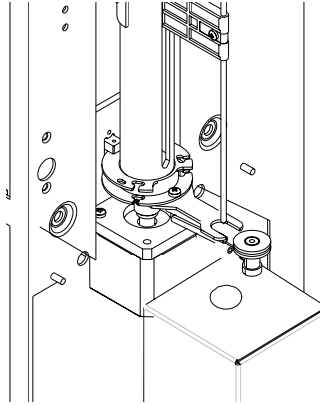

Figure 8-36 Installing wipe block
2. Pull the loosen sample probe upward to remove the wipe block and disconnect the tubes from the wipe block (pay attention to the correspondence between the tubes and the connectors), as Figure 8-36 shows.